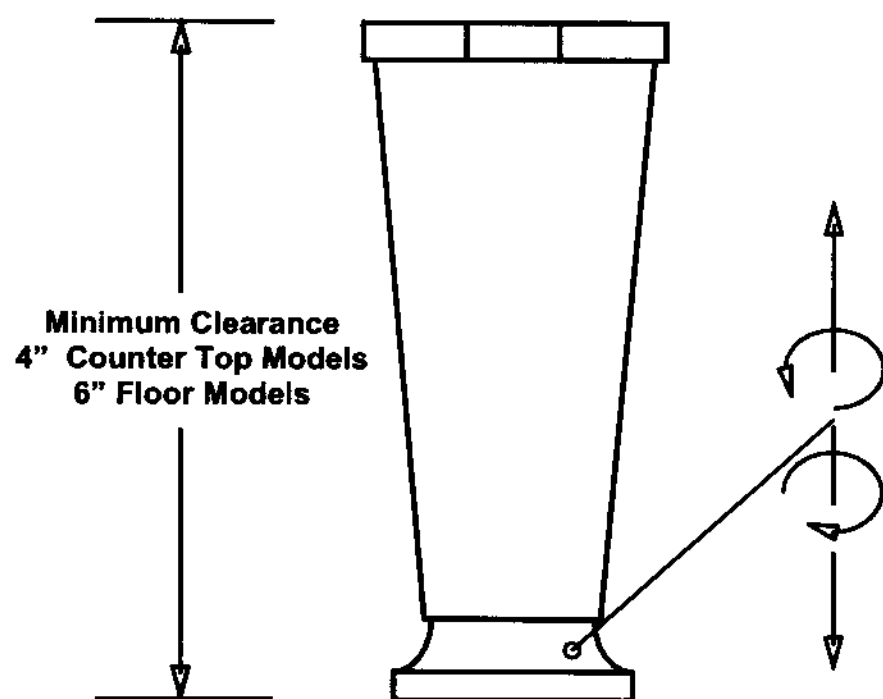

Fig. 1
2. Place the machine in the desired location and level the unit by turning the bottom part of each leg clockwise or counterclockwise (Fig. 1). The machine **MUST** be level to operate properly.